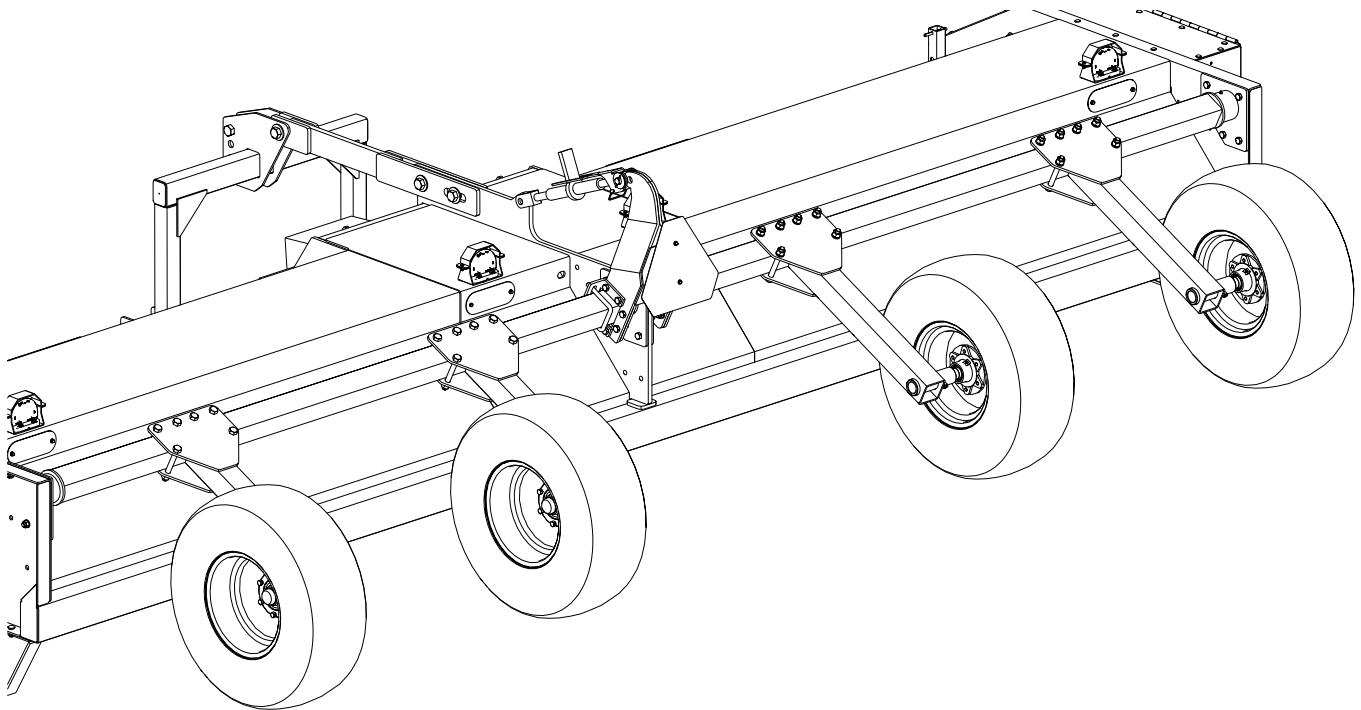

Figure 38. Rockshaft Assembly
2. Slide assembly along the rockshaft to new position (see Figure 38).